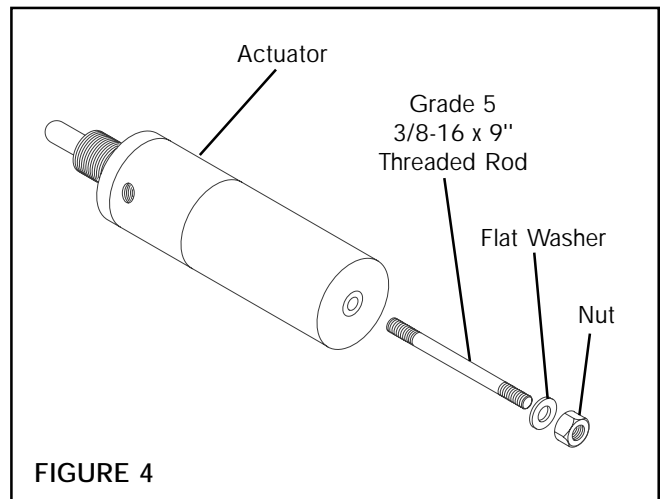

FIGURE 4
NOTE: This BD Caliper Brake is spring engaged and hydraulically disengaged. To release the spring pressure, remove the Vent, then lubricate and insert a Grade 5, 3/8-16 x 9" Threaded Rod into the back of the Actuator; then, using a Flat Washer and Nut, tighten the Nut to release the spring pressure (See Figure 4). A Manual Release Kit (Product No. 933596) containing these items is available from Horton.
NOTE: This BD Caliper Brake is spring engaged and hydraulically disengaged. To release the spring pressure, remove the Vent, then lubricate and insert a Grade 5, 3/8-16 x 9" Threaded Rod into the back of the Actuator; then, using a Flat Washer and Nut, tighten the Nut to release the spring pressure (See Figure 4). A Manual Release Kit (Product No. 933596) containing these items is available from Nexen.
**NOTE:** This BD Caliper Brake is spring engaged and hydraulically disengaged. To release the spring pressure, remove the Vent, then lubricate and insert a Grade 5, 3/8-16 x 9" Threaded Rod into the back of the Actuator; then, using a Flat Washer and Nut, tighten the Nut to release the spring pressure (See Figure 4). A Manual Release Kit (Product No. 933596) containing these items is available from Nexen.